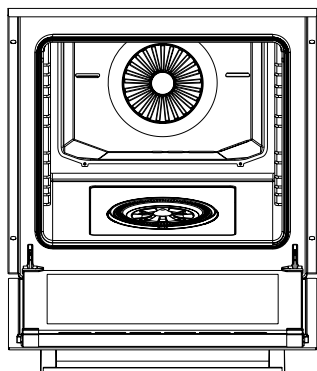
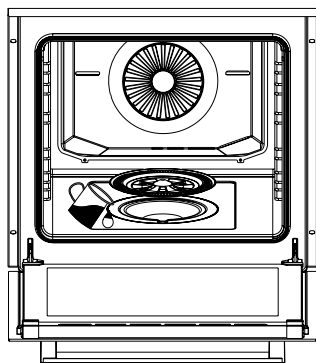
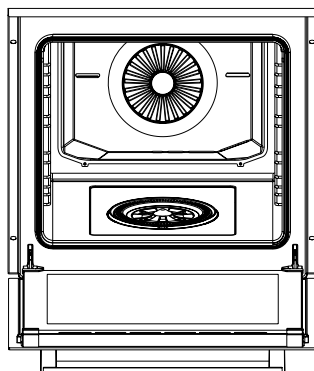

Figure 12
Figure 13
Figure 14
**2.** Open the cover of the appliance (see figure 12). Remove the water tank cover and fill the tank (see figure 13). Then, close the water tank cover (see figure 14). Close the cover of the appliance and preheat it for 10 minutes. After preheating, you can place the food in the appliance.